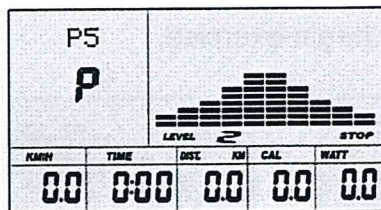

fig 25
A. Press (or rotate) the UP, DOWN button to select the program that you want. (See fig 25)